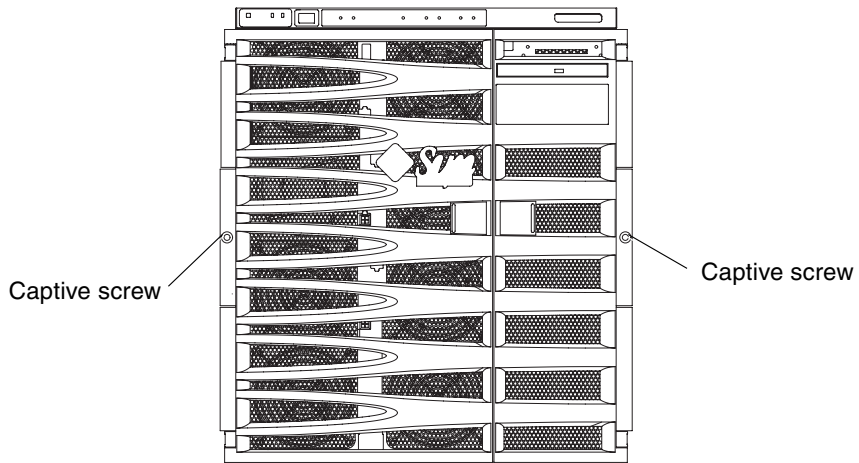

FIGURE 3-3 Side Handles Captive Screws
4. Loosen the captive screws on the side handles (FIGURE 3-3).
5. Loosen, but do not remove, the slide locking nuts at the rear of the system (FIGURE 3-3).
4. Tighten the captive screws on the side handles (FIGURE 3-3).
10. **Tighten the two captive screws on the front of the system (FIGURE 3-3).**